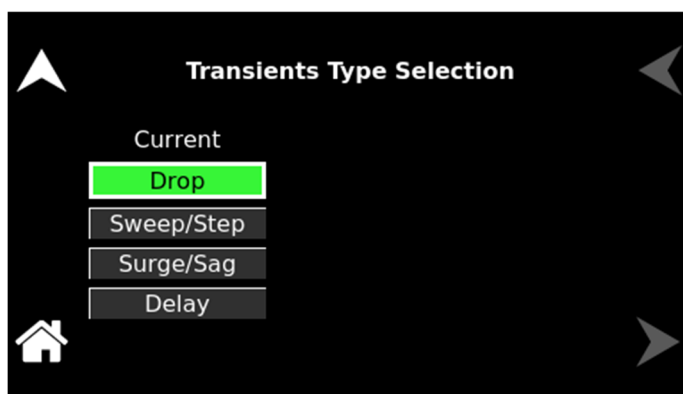

Figure 8-22: Current Transients Type Selection for eLoad – Current Programming Mode
4. Tap the ADD field to enter the ADD sub-menu; refer to Figure 8-22.